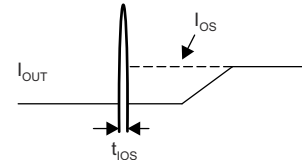

图 7-4. Output Short Circuit Parameters
| $I_{\text{OS}}$  | Current - limit, See <a href="#">图 7-4</a> | $R_{\text{ILIM}} = 33\text{ k}\Omega$   | 2773   | 2952               | 3127 | mA            |
| $t_{(\text{IOS})}$              | Short-circuit response time | $V_{\text{IN}} = 5\text{ V}$ (see <a href="#">图 7-4</a> )   |     | 3.5 (1) |     | $\mu\text{s}$ |    |
The TPS25200 responds to an overcurrent condition by limiting their output current to the  $I_{OS}$  levels shown in Figure 7-4. When an overcurrent condition is detected, the device maintains a constant output current and the output voltage is reduced accordingly. During an over current event, two possible overload conditions can occur.
The second condition is when a short circuit, partial short circuit, or transient overload occurs while the device is enabled and powered on. The device responds to the overcurrent condition within time  $t_{IOS}$  (see Figure 7-4). The current-sense amplifier is overdriven during this time and momentarily disables the internal current-limit MOSFET. The current-sense amplifier recovers and limits the output current to  $I_{OS}$ . Similar to the previous case, the TPS25200 limits the current to  $I_{OS}$  until the overload condition is removed or the device begins to thermal cycle.